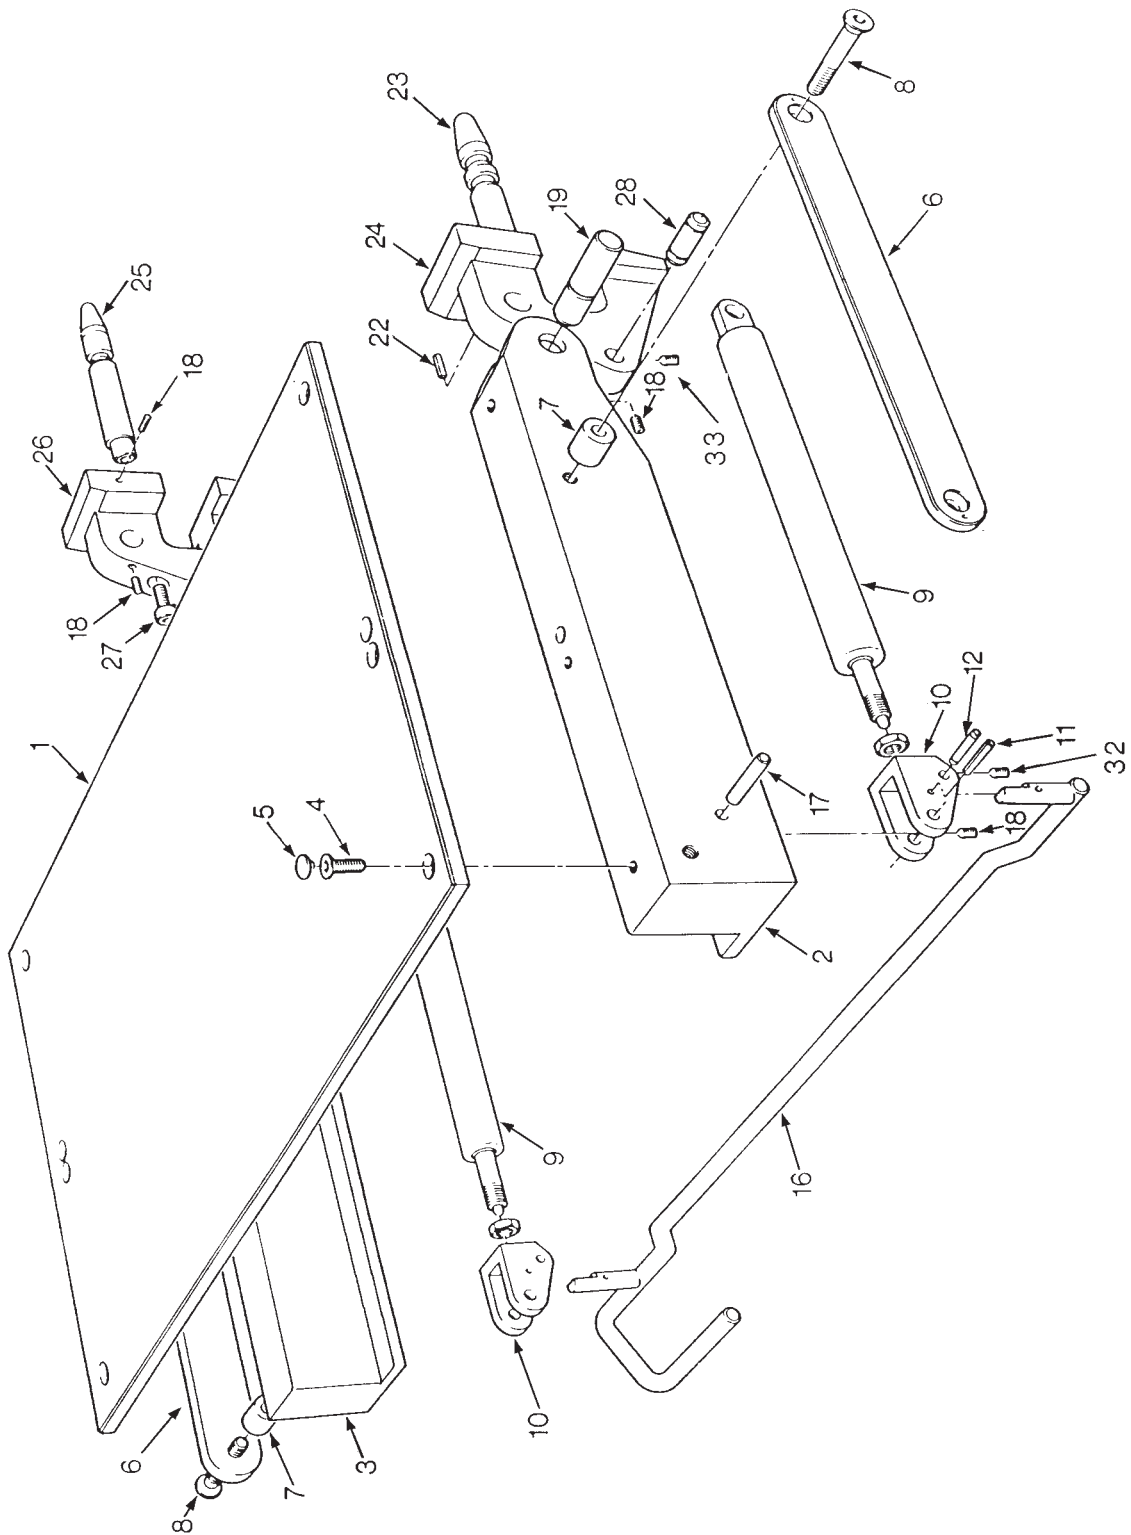

Fig. 19 Head section with gas spring
4.56 To replace head section release handle refer to Fig. 19 and proceed as follows:
- i Remove both side bars (6) by removing screws (8) together with spacers (7).
- ii Release both grub screws (18) and tap out both pivot pins (11).
- iii Release both grub screws (32) and tap out both pivot pins (12). Note: on early versions pivot pin (12) was held in place by two circlips (13).
- iv Release handle (16) and replace.
- v Reassemble by the reverse of above ensuring correct orientation of handle and that the spacers (7) are correctly repositioned, also check correct function and adjustment of gas springs (see section 4.24(iii) and section 4.57(iii)).
- i Refer to Fig. 19 and unscrew gas spring nut from link (10) at piston end. Then remove pivot pin circlips (21) and release grub screw (32) if fitted from the hinge block (24 or 26) supporting the cylinder end of gas spring (9).
- ii Tap out the pivot pin (28). Remove gas spring unit (9) by unscrewing it from link (10) and replace with a new one, noting warning above and do not lubricate.